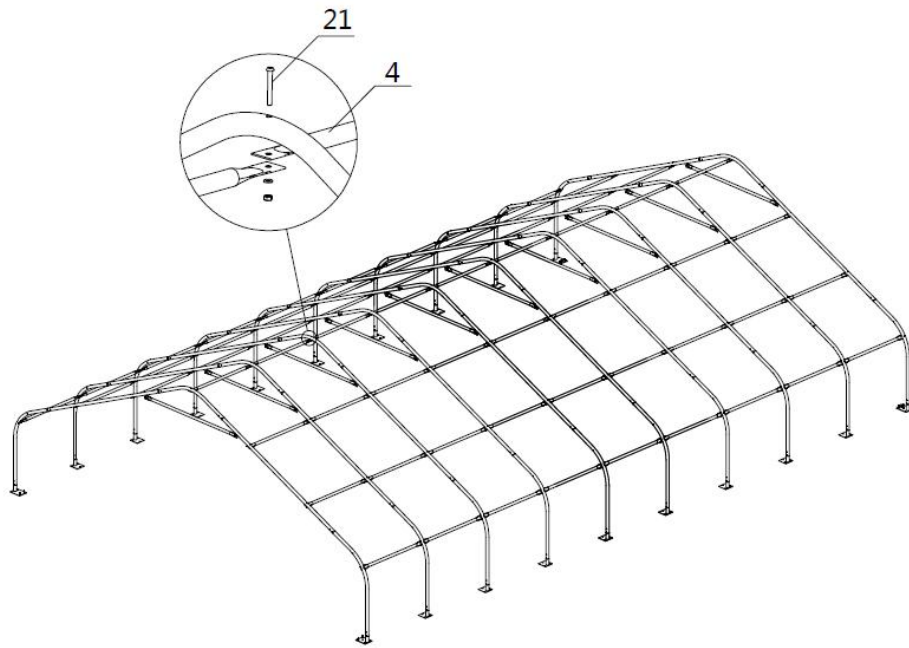

Figure 6
- Repeat above step to put up all other trusses (from 2th to 10th truss), and connect all purlin. Now the whole structure is completely up. (refer to figure 6)